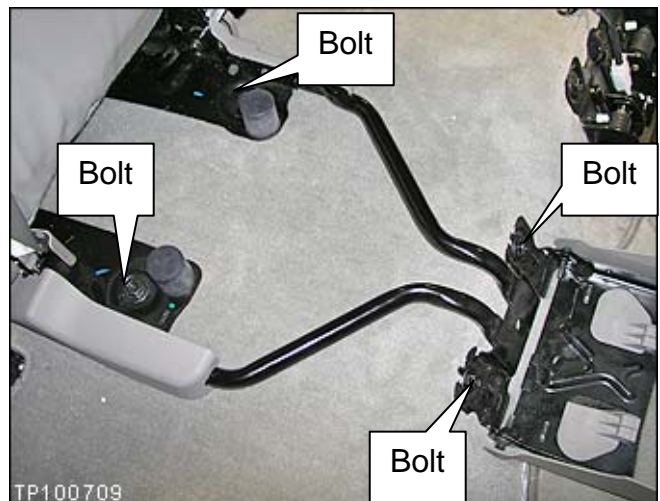

Figure 5
b. Remove the 4 bolts shown in Figure 5.